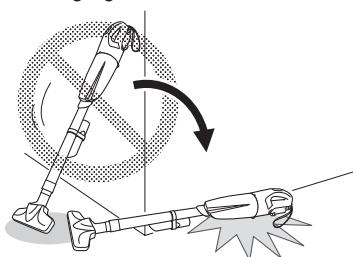

Fig. 23
- Do not stand the appliance against a wall without using the strap to fix it in place. (**Fig. 23**)